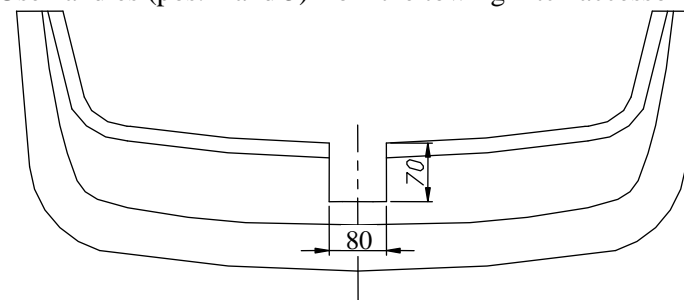

Fig. 2
4. Apply the main bar of the towing hitch (pos. 1) to chassis members in that way so holes in the main bar be covered with holes in the frame, then fix using bolts M12x110mm (pos. 6). Use large washers (pos. 8).
6. Cut out fragment of the bumper (as shown in the fig. 2), then install the bumper. Use handles (pos. 4 and 5) from the towing hitch accessories (see fig. 1).